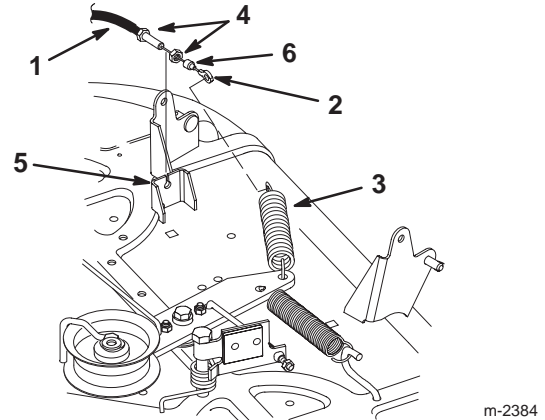

Figure 44
14. Remove the rubber wiper and first jam nut. Thread the second jam nut onto the blade control (PTO) cable all the way. Route the cable through the slot in the housing bracket and thread the second jam nut onto the cable (Fig. 44).
15. Hook the end of the blade control (PTO) cable onto the idler spring (Fig. 44).